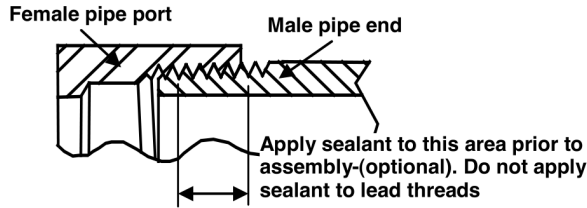

Fig.18 NPTF Pipe Assembly
2. Lubricate or apply compatible sealant to male pipe thread. See Fig.18.